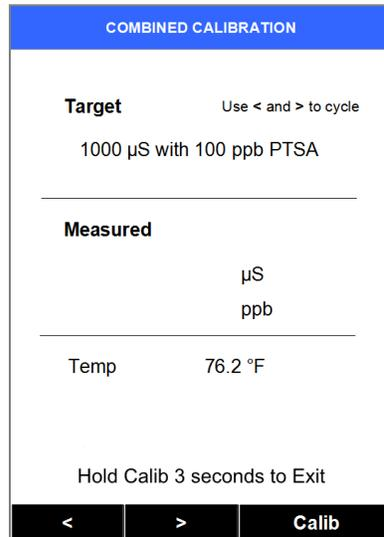

Figure 10
- 6) A screen similar to Figure 10 will appear. This is the default conductivity calibration mode, which is a Combined Calibration (this requires a combined standard with both PTSA and Conductivity). It is easily changed to the other calibration modes as desired.
- 10) Or, press Cancel (< key) to return to the Conductivity calibration selection screen (as in Figure 10). If desired, the conductivity calibration type can be changed with use of ">" or "<".